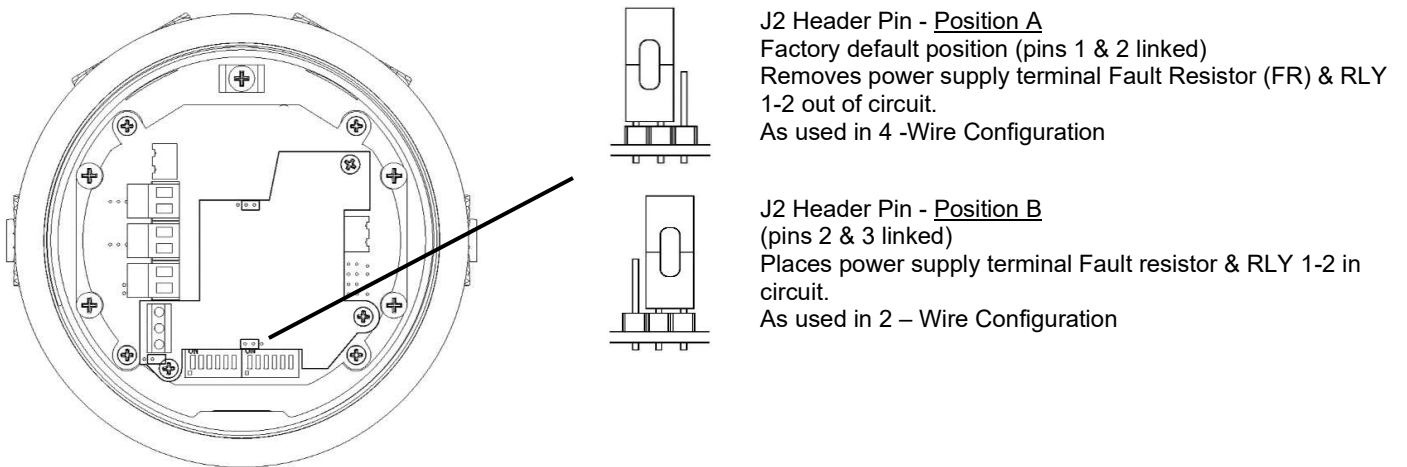

Figure 17: J2 Header pin positions – Fault Resistor (FR)
**Important:** - The 2-wire configuration requires the J2 header pin to be set to position B (see figure 17). Factory default position is A.